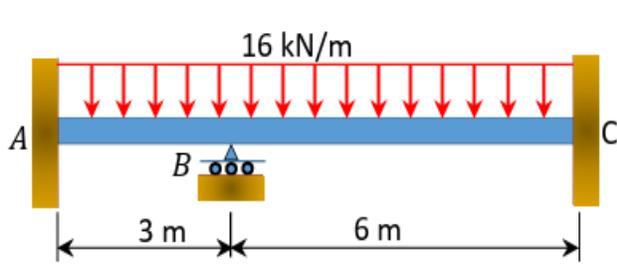

Fig.2
12. Using the moment distribution method, determine the end moments and the reactions at the supports of the beam shown in Fig.2. Draw the shearing force and the bending moment diagrams.  $EI = \text{constant}$ . 16 CO2 [K4]